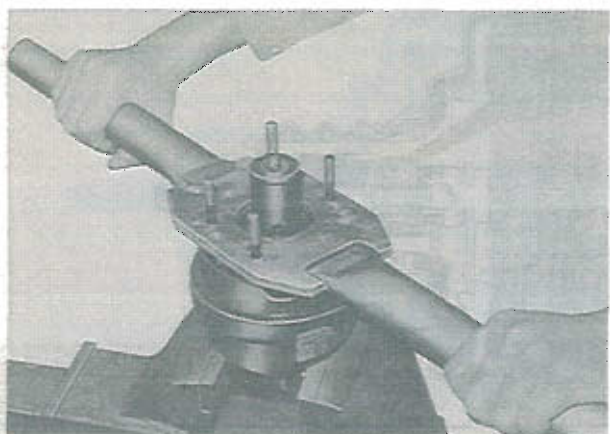

Fig. 11-26 Removing of rear shell
5. Attach a suitable wrench to the studs of the rear shell as shown in Fig. 11-26. Rotate the rear shell clockwise to unlocked position.